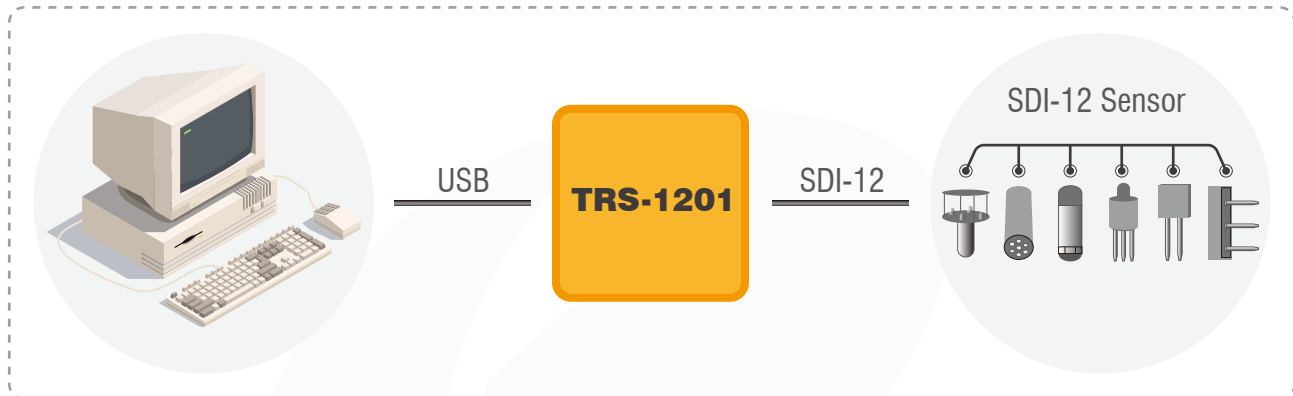

Figure 3. Diagram of converter hardware connection
- The current port number is shown as COM11 in the Device Manager after connecting devices as shown in Figure 3.